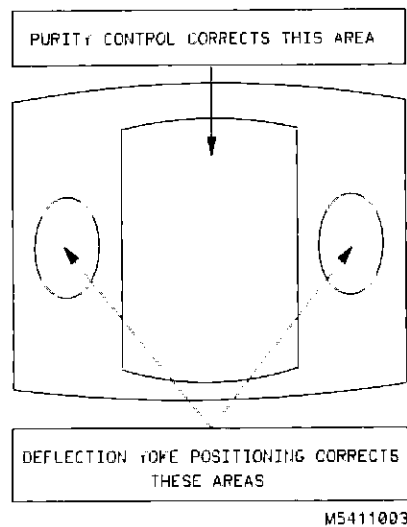

Figure 3-12. Landing and Purity Adjustment Guide.
- 10 If landing is not correct in step 9, repeat steps 6 through 9 for best compromise (see figure 3-12)